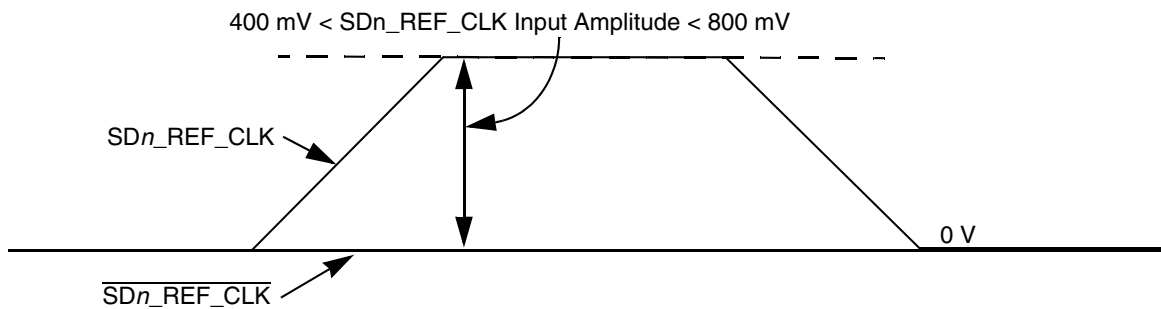

Figure 44. Single-Ended Reference Clock Input DC Requirements
- The SDn_REF_CLK input average voltage must be between 200 and 400 mV. Figure 44 shows the SerDes reference clock input requirement for single-ended signaling mode.